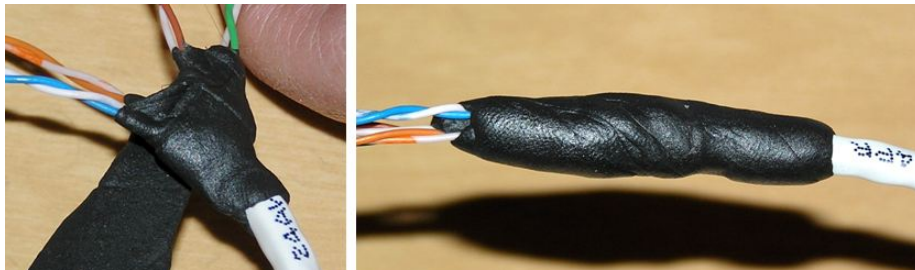

Figure 2.7-1. Butyl Rubber Tape Wrapped to Waterproof the Tether Cable Sheath's Opening
1. Using a ½" (1.5 cm) piece of butyl rubber tape, stretch the tape to about twice its relaxed length and wind it among and around the four wire pairs where they emerge from the outer jacket of the thruster end of the tether cable. Press it over the jacket opening so that it extends at least ½" on each side of the opening, as shown in Figure 2.7-1. Knead and work it in between the wires well so that it seals both around and between the wires and forms a smooth seal over the jacket opening to prevent water from getting inside the tether cable.